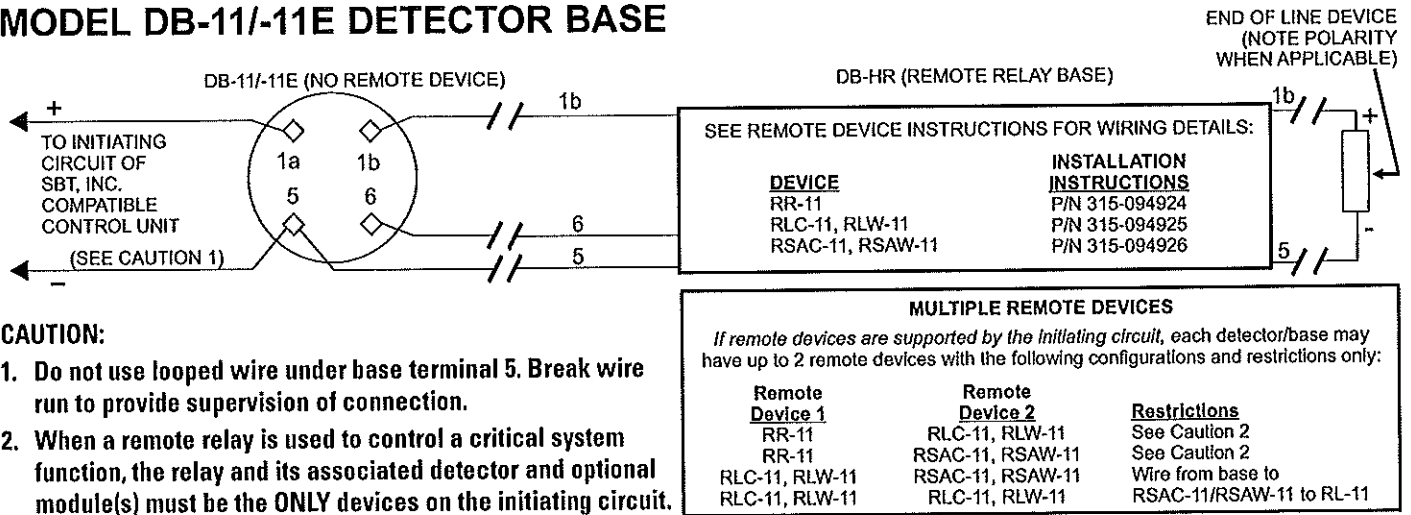

Figure 1 Wiring Diagram for DB-11/-11E using PE-11, PE-11T, and DT-11 Detectors
Siemens Building Technologies, Inc.'s detectors should be interconnected as shown in Figures 1, 2 or 3 and wired to the control panel following the wiring connection drawing installed on the inside face of each control panel cover. NOTE: H Series devices are wired to the DLC or FS-DLC; S Series devices are wired to the FDLC. **Note any limitations on the number of detectors and restrictions on the use of remote devices permitted for each circuit.**
3. Route wires through the hole in the center of the base and mount base to outlet box. Make connections directly to the base terminals. Refer to Figures 1, 2 and 3 for details.